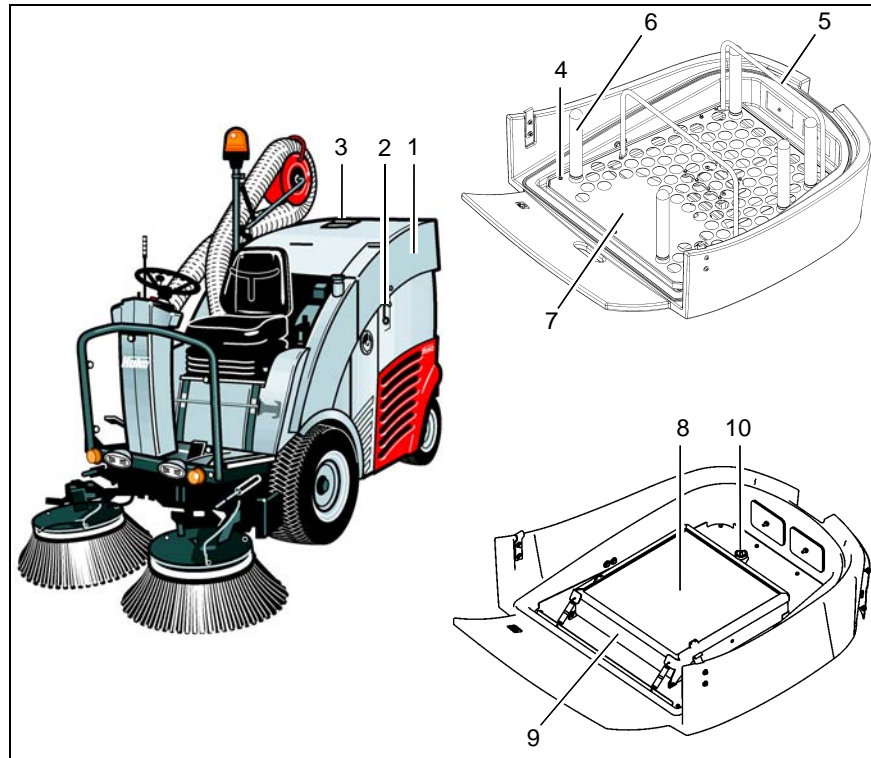

Fig.27
3. Open the fastening device (Fig. 27/ 2). Pull out the pivoting lever (Fig. 27/ 3) and pivot the filter case (Fig. 27/1) to the rear. Dry clean the filter hoses (Fig. 27/6).
1. Open the fastening device (Fig. 27/ 2) and pivot the filter case (Fig. 27/1) out towards the rear.
6. Clean the perforated metal plate (Fig. 27/7) thoroughly, insert new filter hoses and press on evenly.
1. Open the fastening device (Fig. 27/2). Pull out the pivoting lever (Fig. 27/3) and pivot the filter case (Fig. 27/1) to the rear.
2. Loosen the knurled screw (Fig. 27/10).
3. Remove the preliminary filter (Fig. 27/8), main filter (Fig. 27/9) and coarse particle sieve (Fig. 28/1) and clean using a pressure washer, for example, pointing it opposite to the normal direction of flow.
3. Remove the preliminary filter (Fig. 27/8) and main filter (Fig. 27/9) and replace with new ones.